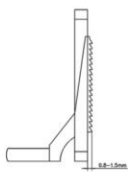
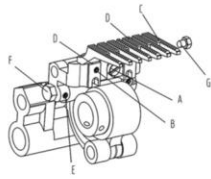

图27 (Fig.27)
图28 (Fig.28)
送布牙(C)升至最高点时，送布牙齿顶与针板面的距离为0.8-1.5mm，平均为1.2mm。(图27)
送布牙的调整: (图28)
- 3.将高度固定销(D)的固定螺钉(B)松开，调整固定销直到送布牙的底部再锁紧螺钉(B)。(图28)
When feed dogs (C) move to the highest position, the distance from the tips of feed dogs to the face of Needle plate is 0.8-1.5mm. The average is 1.2mm (Fig.27). For adjustment: (Fig.28)
1. Loosen screw (A) on Feed Dog (C).
2. Move Feed Dog (C) up and/or down to meet above requirement then tighten screw (A).
3. Loosen screw (B) and move stop pin (D) upward to the bottom of Feed Dog (E), then tighten screw (B) (Fig.28)
送布牙上升至最高时应与针板平行(图27)。调整: 夹紧螺栓(F), 将螺帽(G)放松, 调整送布牙螺钉(E), 使送布牙(C)与针板平行(图28)再锁紧螺帽(G)。
When the feed dogs are at the highest position they should be parallel to Needle plate surface (Fig.27). For adjustment: Holding screw nut (F) firmly and loosen screw (G) then to adjust screw (E) for the teeth surface of Feed Dogs, is paralleled needle plate (Fig.28)